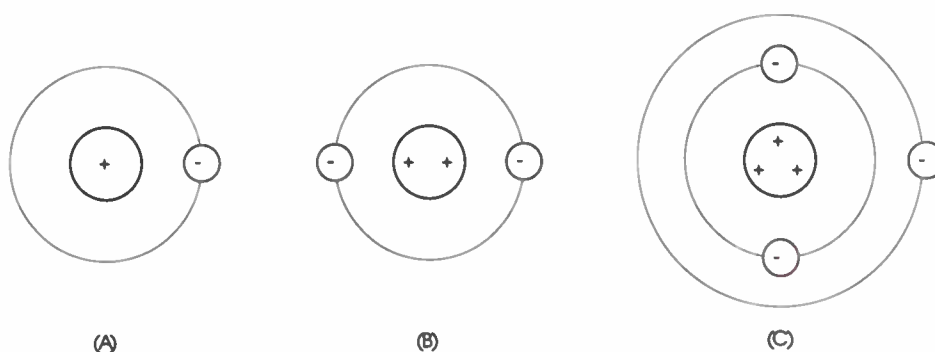
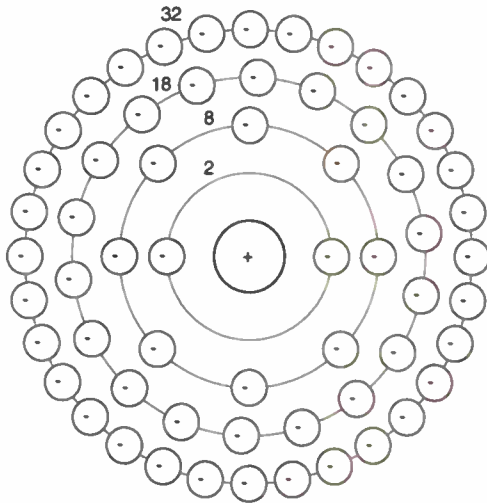

Figure 8. (A) The Hydrogen atom. (B) The Helium atom. (C) The Lithium atom.
Figure 9. The maximum number of electrons possible in each of the first four rings of any atom.
The lightest element, hydrogen, has the simplest atomic structure. It has one positive charge in the nucleus and one electron in orbit around the nucleus, as shown in Figure 8(A). Helium, the second element, has two positive charges in the nucleus and two electrons in orbit, as shown in Figure 8(B). Next is a light metal, lithium, with three positive charges in the nucleus and three electrons in orbit, as shown in Figure 8(C).
Notice in Figure 8(C) that lithium's third electron travels in a second ring. The first electron ring of an atom can hold two electrons; once the ring is filled, additional electrons must orbit in other rings. The maximum number of electrons in each of the first four rings of any atom is shown on the next page in Figure 9. In general, to find out the maximum